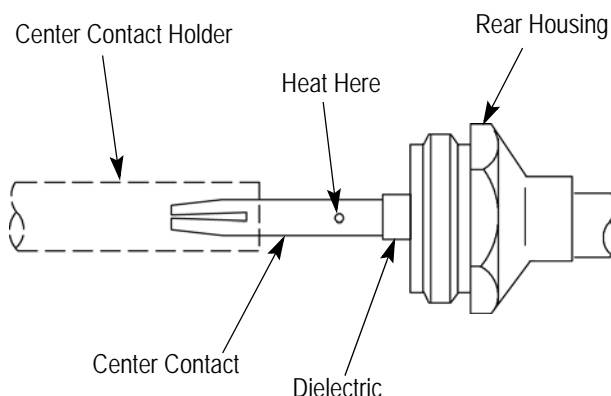

Figure 5
3.3. Soldering of Center Contact to Inner Conductor (Figure 5)